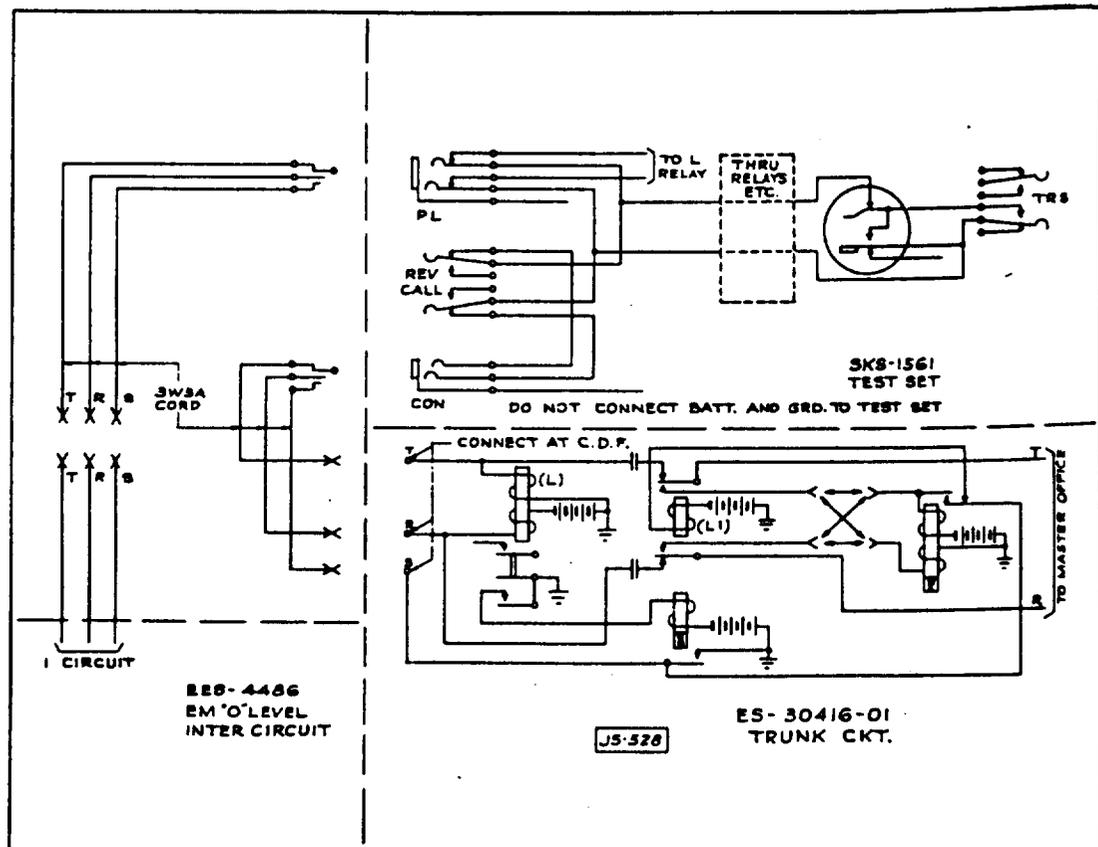

Fig. 2
4.05 Community Dial Offices with Test Set SKS-1561 and Trunk Circuit ES-30416-01 (Fig. 2).